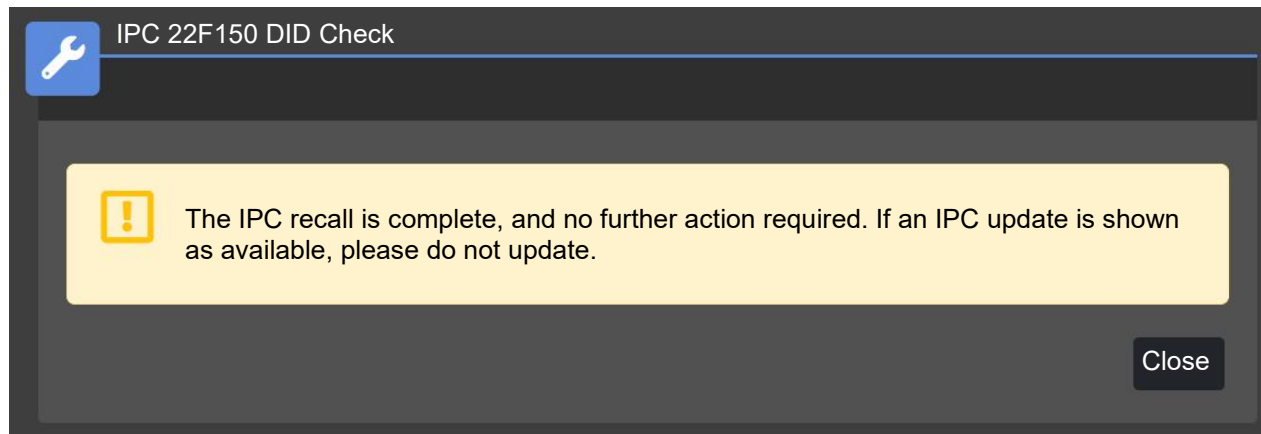

Figure 1 – Flash Not Required Message
- Flash Not Required Message (Figure 1).
11. If wiTECH displays the “**IPC recall is complete, and no further action required**” message as shown in (Figure 1). Disconnect the wiTECH micro pod II / MDP device and battery charger from the vehicle. Install the Authorized Modifications Label showing that 16C has been completed. For California residents, complete a vehicle emission recall Proof of Correction Form. Claim the inspection LOP and vehicle may be returned to the customer or inventory.